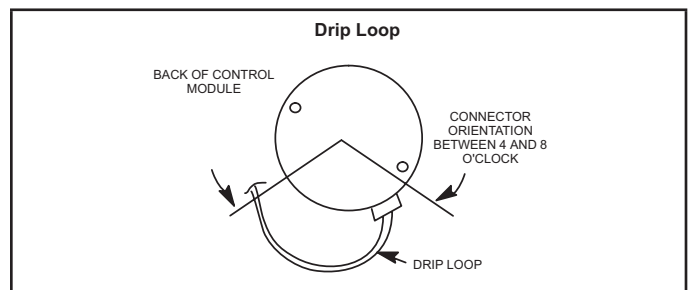

FIGURE 13
- 5 - The electrical connectors of the motor should be facing down to form a drip loop (FIGURE 13). This will direct moisture away from the motor and its electric connections on the motor.